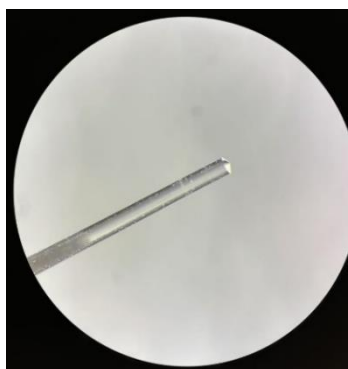

Figure 1.1 Visual inspection of the fiber tip under the stereoscope
Step 1. Examine the fiber tip under a stereoscope to confirm the micro-axicon's quality (Figure 1.1). Should dust be present, carefully clean the tip with either an air duster or a lens cleaning wipe.